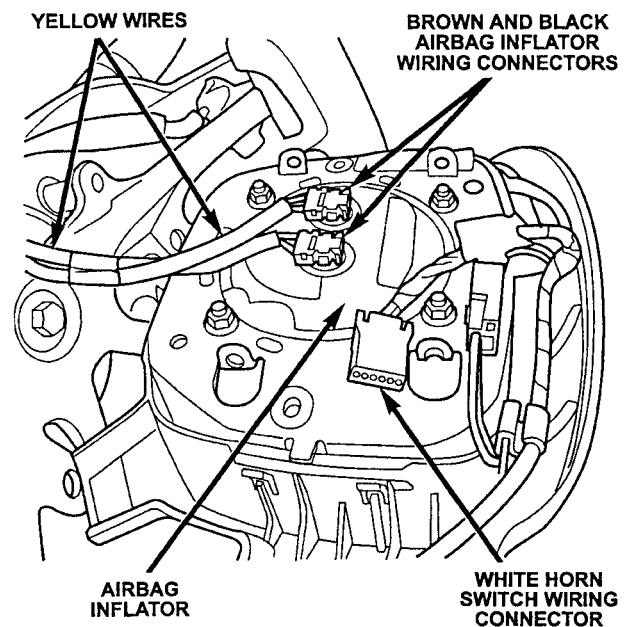

Figure 3
5. While compressing the connector release tabs, pull each of the wiring harness connectors from the airbag inflator connector (Figure 3).
11. Connect the clock spring airbag wiring harness connectors to the airbag inflator connectors (Figure 3).